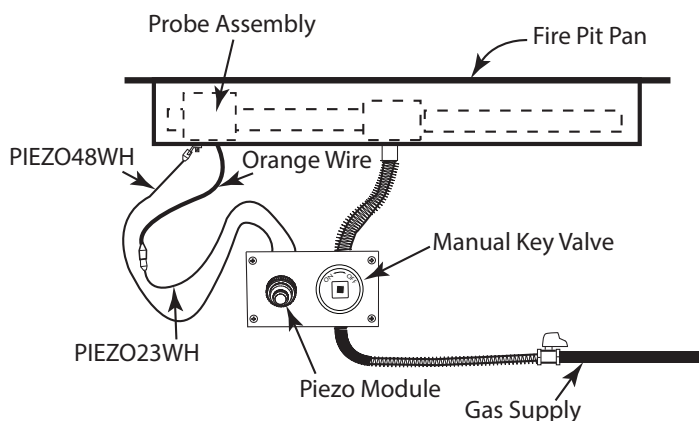

Fig. 16 Wiring diagram
PRECAUTION: If you are installing the MSI (Manual Spark Ignition) ensure the PAVER-KIT-MT-MSI control panel is within 40-inches of the 2-probe Piezo ignitor. This will allow enough "play" in the wires to make your connections. See Fig. 16 on page 5.
Step 8: Attach the 1/4" end of extension wire (PIEZO23WH) to the orange ignitor wire and attach the 1/4" wire end (PIEZO48WH) wire to ground tab under the burner pan. See Fig. 16.